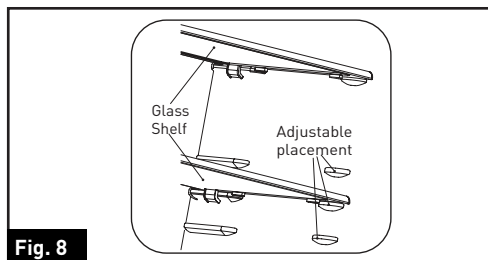

Fig. 8
- When you return the shelves, make sure there are no obstacles behind and gently push them into the position. (Fig. 8)